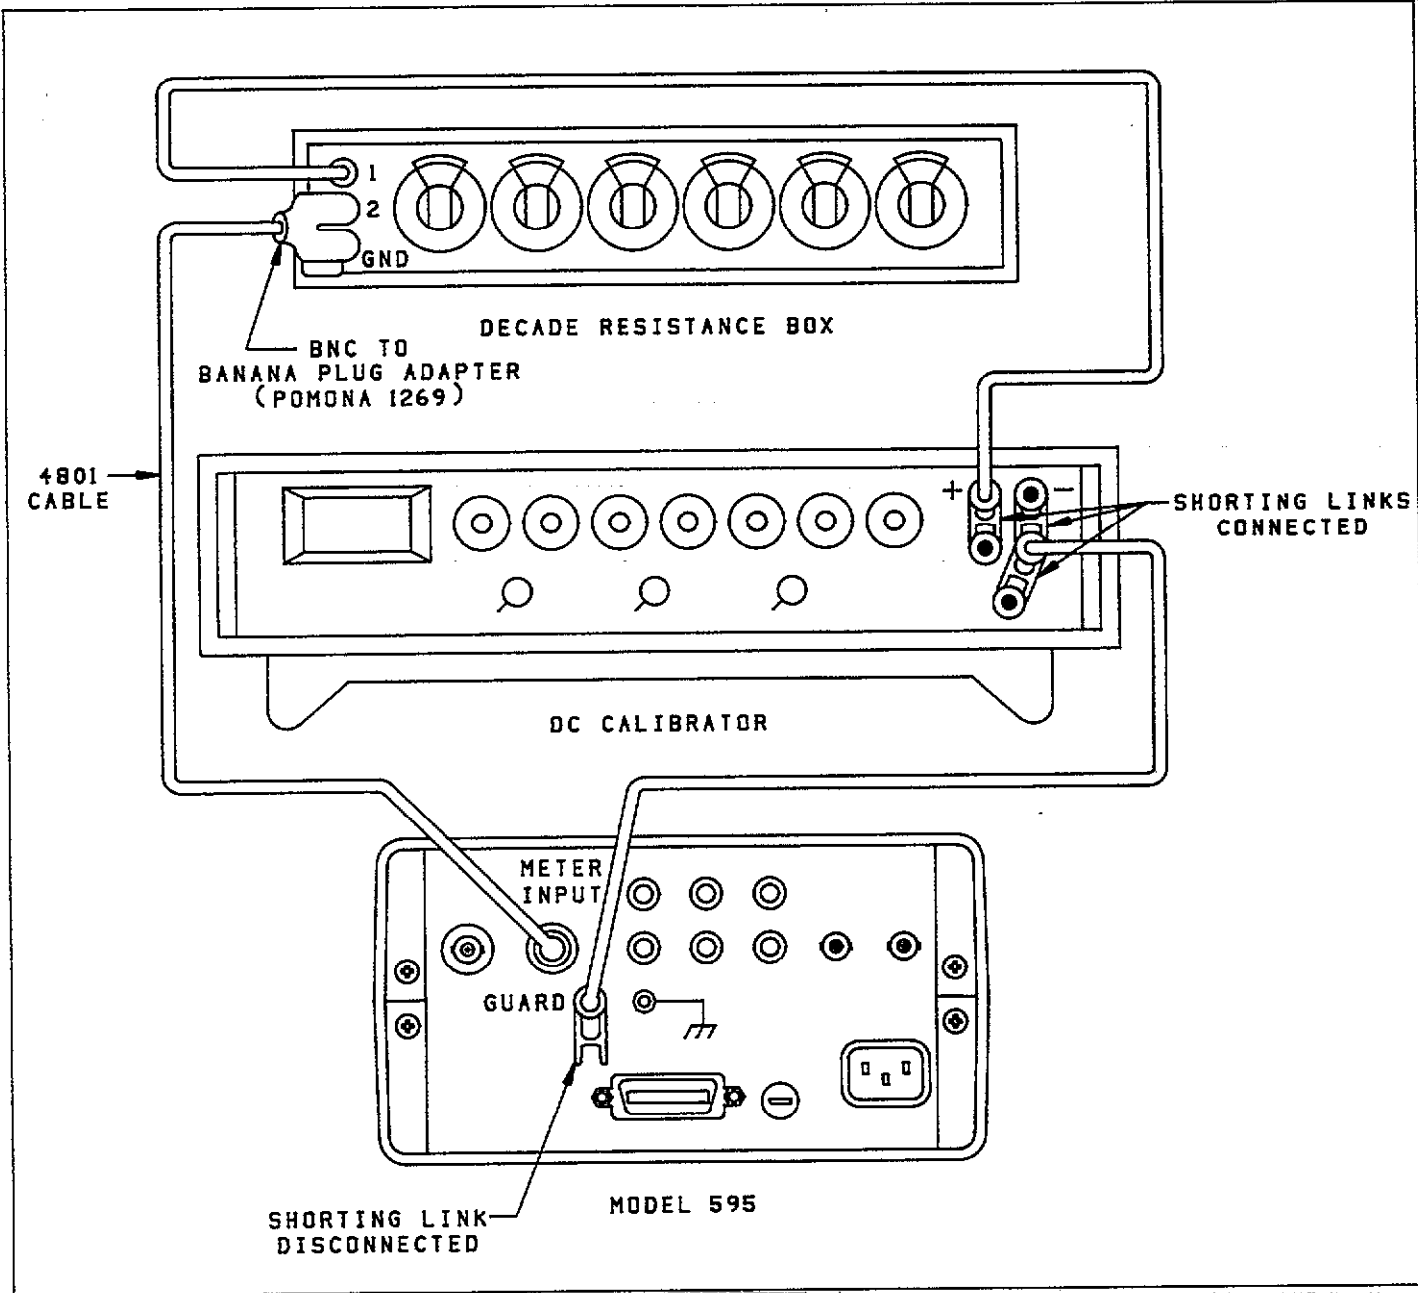

Figure 8-7. Current Calibration Setup ($20\mu\text{A}$ to $200\mu\text{A}$ Ranges)
- Disconnect the resistor/shield fixture from the instrument and connect the decade resistance box in its place, as shown in Figure 8-7.
2. Connect the current source to the input as shown in Figure 8-7. Set the decade resistance box to 100k Ω and set the calibrator to output 0V.